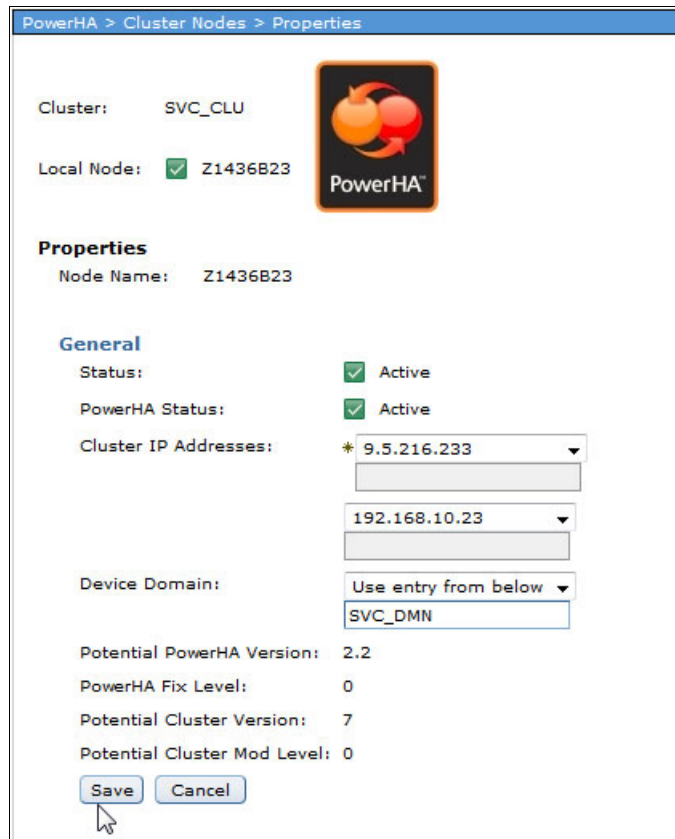

Figure 4-19 Specifying the device domain
16. Define the name of the device domain, as shown in Figure 4-19. If there is already a device domain that is created within the cluster, you can choose the device domain from the drop-down menu.